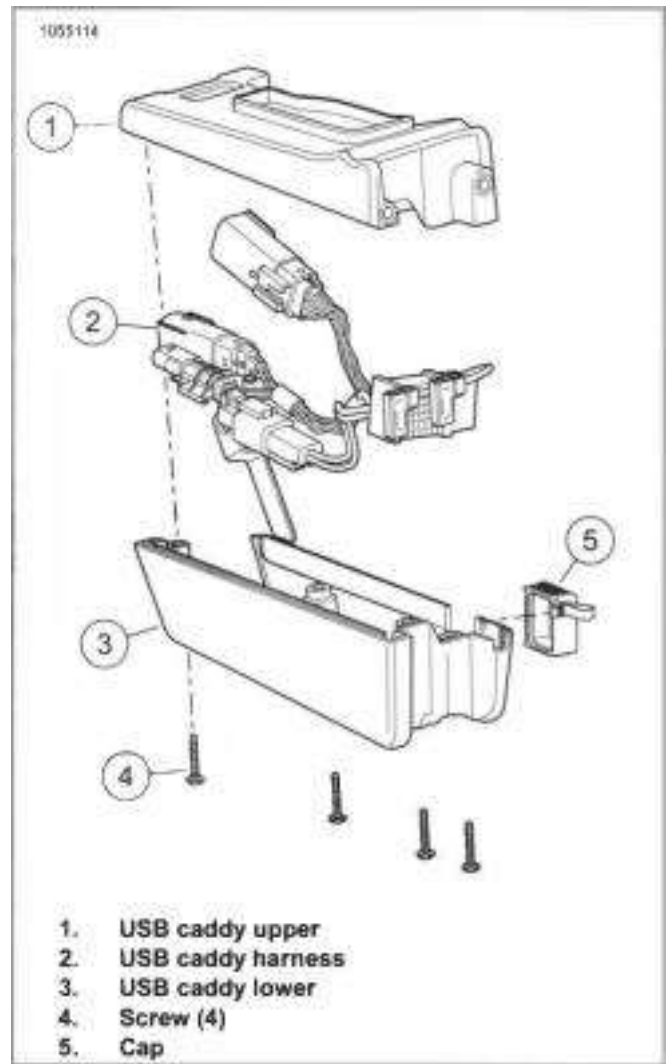

Figure 7-157. USB Caddy Assembly
- See Figure 7-157 Separate USB caddy.
- Remove screws (4).
- Remove harness (2).
- Figure 7-157. Assemble USB lower (3) and upper (1) caddy.
- Install harness (2) into lower USB caddy.
- Install screws (4). Tighten.